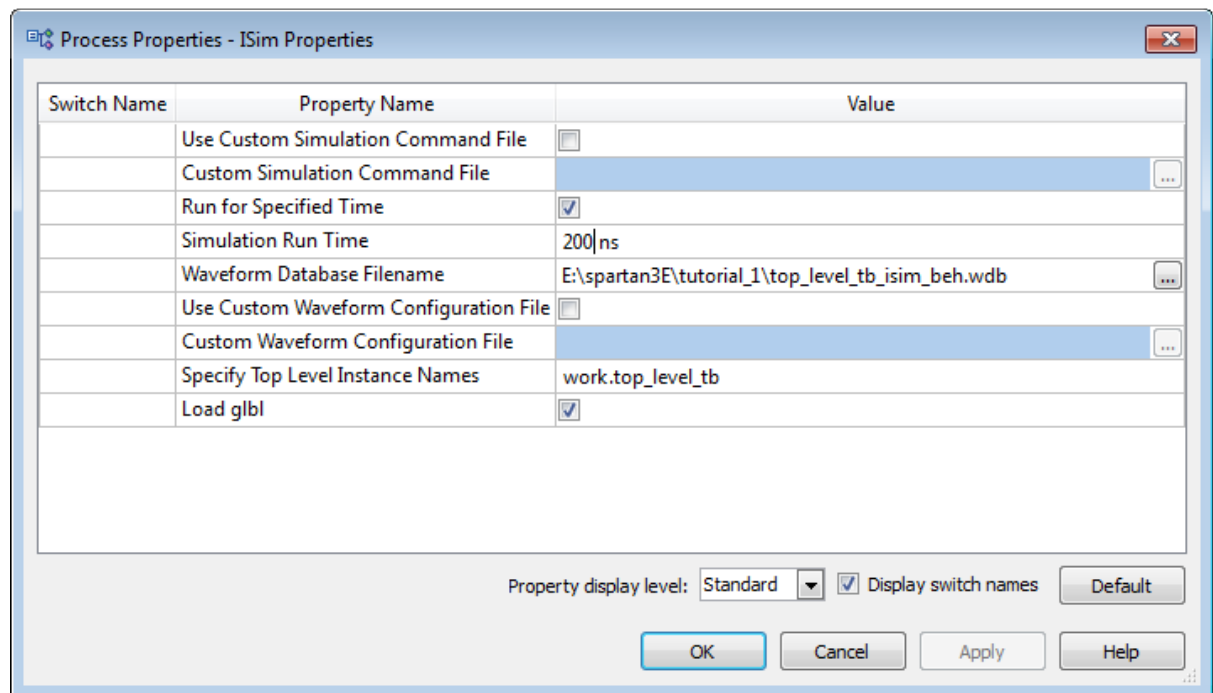

Figure 4.16: Changing Simulation Run Time.
- When the **Process Properties – ISim Properties** window appears, change Simulation Run Time to 200 ns, as shown in Figure 4.16.